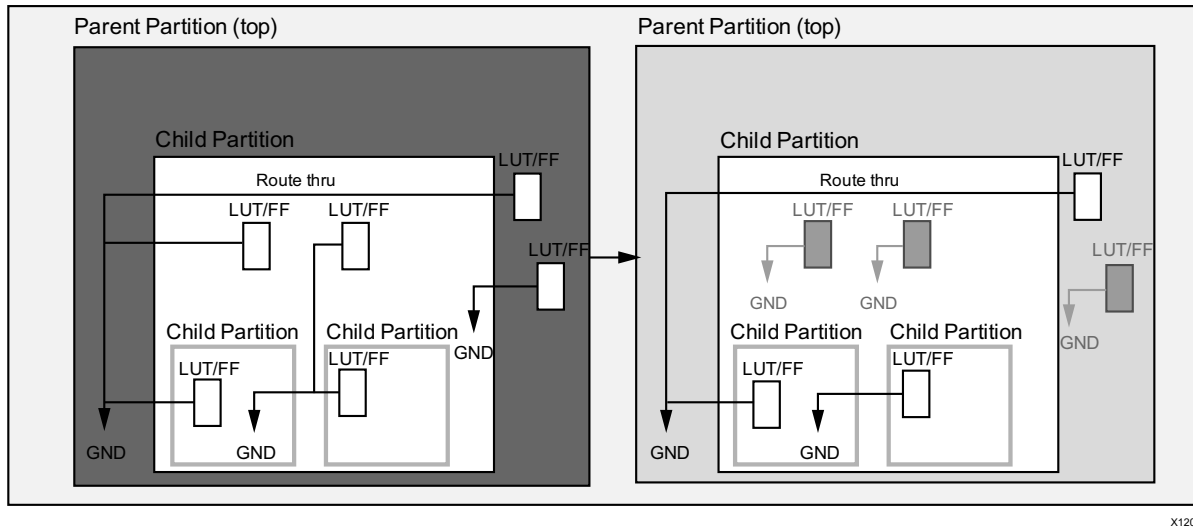

Figure 2-1: Constant Pushing
- Figure 2-1, Constant Pushing
In Figure 2-1, **Constant Pushing**, **BoundaryOpt** pushes constants across one partition boundary only. This removes the port from the partition interface. The route through nets is not optimized.